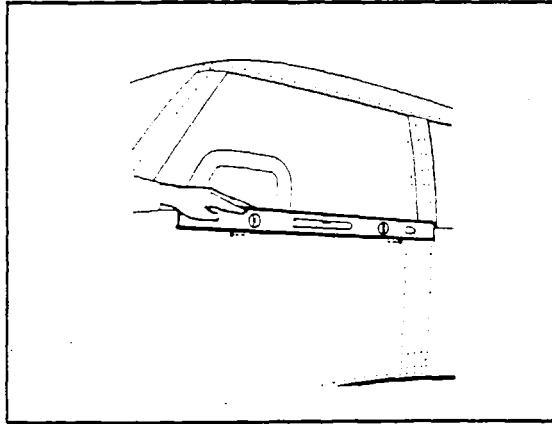

Figure 2-6. Leveling Longitudinally
a. To longitudinally level the airplane, partially withdraw the two leveling screws located immediately below the left front side window. (Refer to Figure 2-6.) Place a spirit level on these screw heads and deflate the nose wheel tire or adjust the jacks until the bubble of the level is centered.